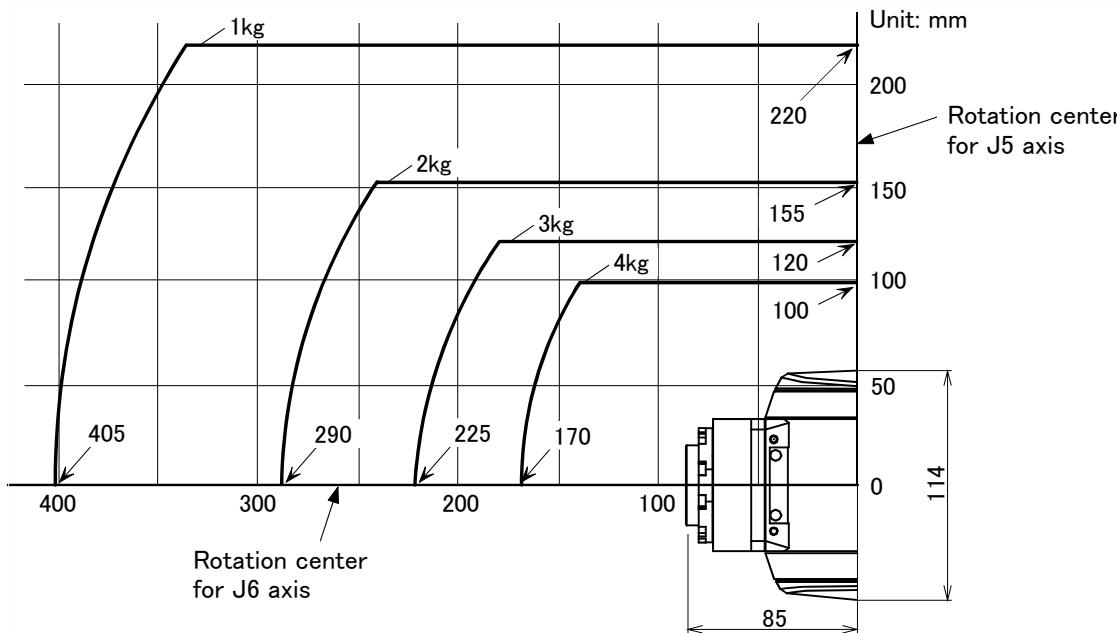
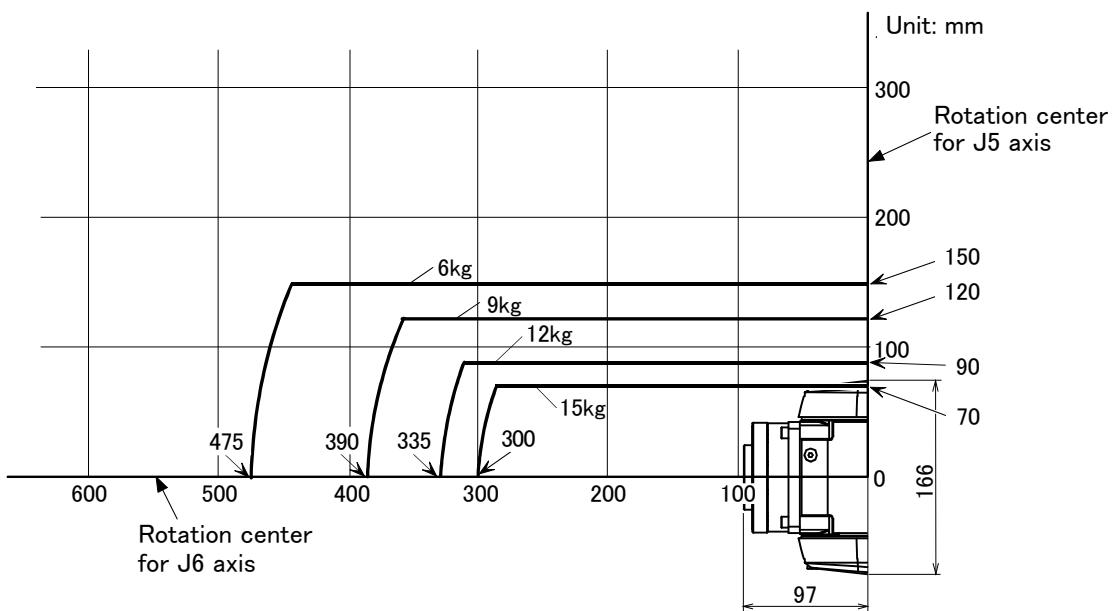

Fig.2-1 : Position of center of gravity for loads (for loads with comparatively small volume): RV-4F/4FL
Fig.2-4 : Position of center of gravity for loads (for loads with comparatively small volume): RV-20F
- (1) The tooling should have the value less or equal than the smaller of the tolerable inertia and the tolerable moment found in Page 11, "2.1.1 Basic specifications".
- (2) Fig. 2-1 to Fig. 2-4 shows the distribution dimensions for the center of gravity in the case where the volume of the load is relatively small. Use this figure as a reference when designing the tooling.
- (3) Even if the load is force, not the mass, design the tooling so that moment does not exceed the allowable moment. Refer to Page 11, "2.1 Standard specifications" for details of allowable moment value.